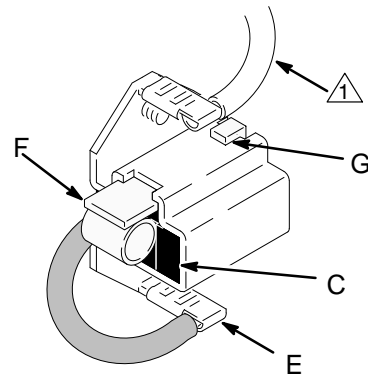

Fig. 15
7. Holding the spring clip (F) at a slight angle, slide the spring clip into the brush holder and hook it over the end of the holder. See Fig. 15. Pull on the spring clip to be sure it stays in place. Connect the brush lead to the blade connector (E).